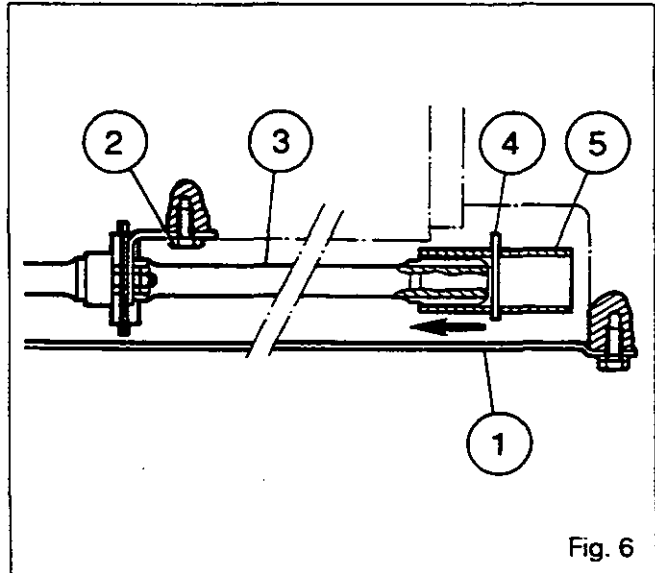

Fig. 6
10. Remove the guard (1) (Fig. 6).
11. Unscrew the centre bearing (2) from the 4WD shaft (3) (Fig. 6).
12. Remove the cotter pin (4) from the rear sleeve (5).
Disengage the 4WD clutch shaft by sliding off the sleeve (Fig. 6). Turn the half-shaft so as to bring the coupling sleeve (2) into position (Fig. 4).